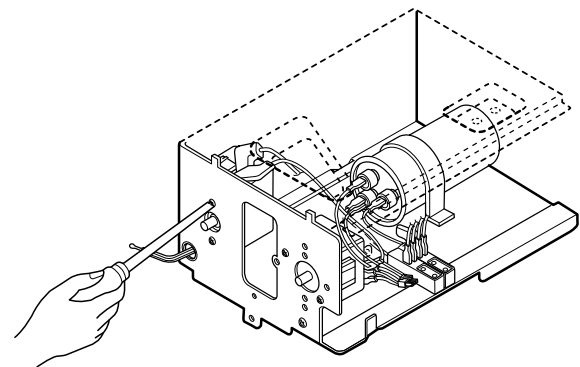

Figure 13
6. Re-install the components by refereing to the above removal procedure. (See Figure 13)